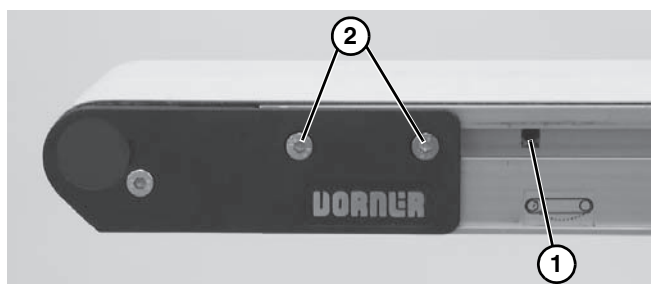

Figure 7
5. With a 5 mm hex-key wrench, rotate pinion gear (**Figure 7, item 1**) to tension the conveyor belt. Tighten fastening screws (**Figure 7, item 2**) on both sides of conveyor to 80 in-lb (9 Nm). For proper tensioning, refer to “Conveyor Belt Tensioning” on page 12”.